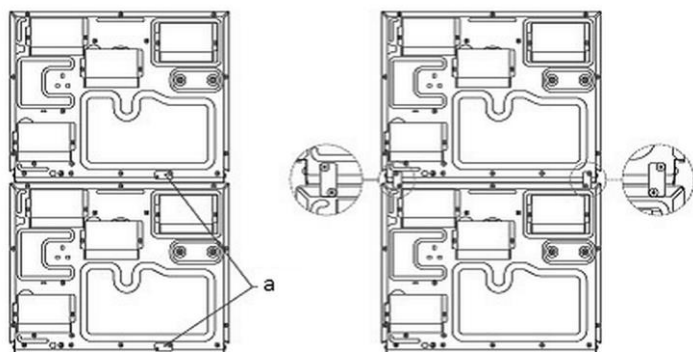

Fig. 3
1. Stack one microwave unit on another one and remove from each of them connection plates (a, Fig. 3), fixed at the back wall of both units, in the bottom right corner.
2. Use four screws and the connection plate (1) to secure the top and bottom microwave unit.